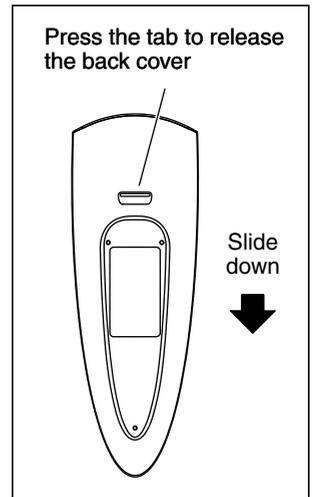

Figure 6 - Removing the back cover
2. Press the tab and slide the back cover down to release (refer to Figure 6).